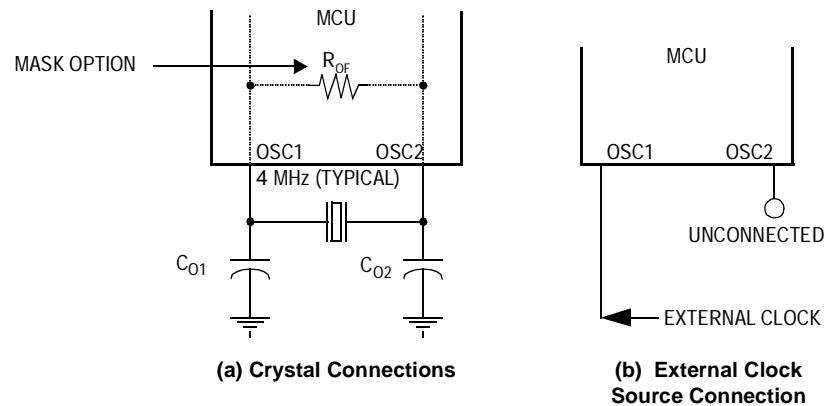

Figure 1-4. Oscillator Connections
1. A crystal or ceramic resonator as shown in Figure 1-4\(a\)
2. An external clock signal as shown in Figure 1-4\(b\)
The circuit in Figure 1-4\(a\) shows a typical 2-pin oscillator circuit for an AT-cut, parallel, resonant crystal. The crystal manufacturer's recommendations should be followed, since the crystal parameters determine the external component values required to provide maximum stability and reliable startup. The load capacitance values used in the oscillator circuit design should include all stray capacitances. The crystal and components should be mounted as close as possible to the pins for startup stabilization and to minimize output distortion. An internal startup feedback resistor of R_{OF} between OSC1 and OSC2 can be selected as a mask option.
An external clock from another CMOS-compatible device can be connected to the OSC1 input, with the OSC2 output not connected, as shown in Figure 1-4\(b\). This configuration is possible regardless of the oscillator setup.